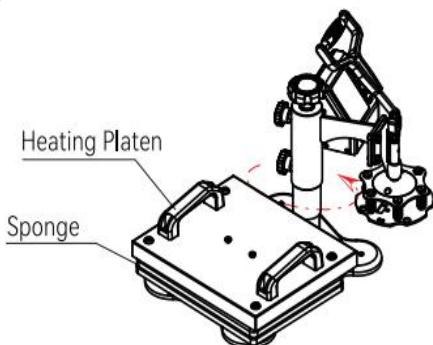

Fig 5
4. Swing the head away and put the sponge and the heating platen on the top of the table platen in order(as shown in figure5)